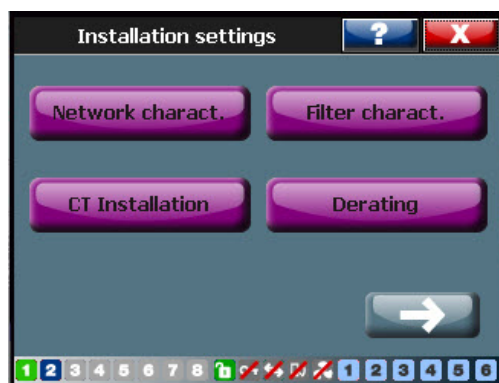

Figure 55: Illustration of arrow symbol on the PQF-Manager display
- Sometimes the complete item list in a menu cannot be shown on the display. This is indicated by a small  symbol that appear(s) at the bottom right (Cf. Figure 55). Pressing this button takes the menu to the next screen where more items are available to choose from.